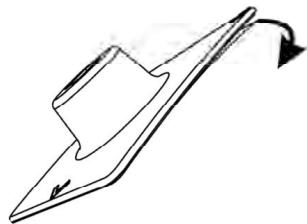

Fig 12
11. Remove the protective backing from the Adhesive Pedestals and install on the hood surface. (Fig 12)